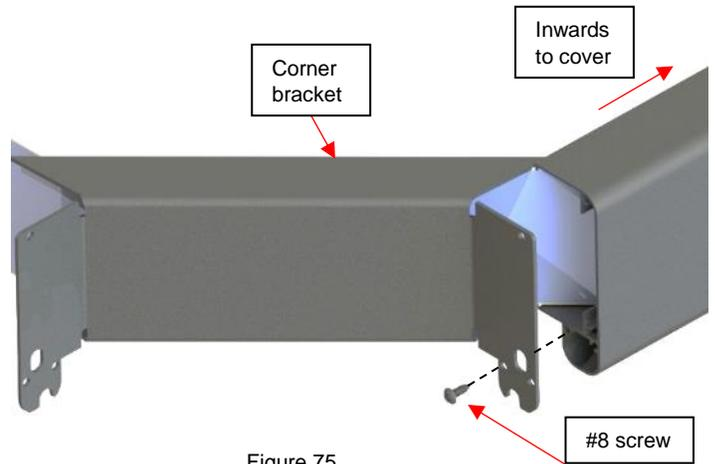

Figure 75
33) Insert the corner bracket on the tapered part of one end panel. Use the provided Robertson sheet metal #8 x 3/4" screws on the inside hole. **The two remaining holes will be used later** (Figure 75).